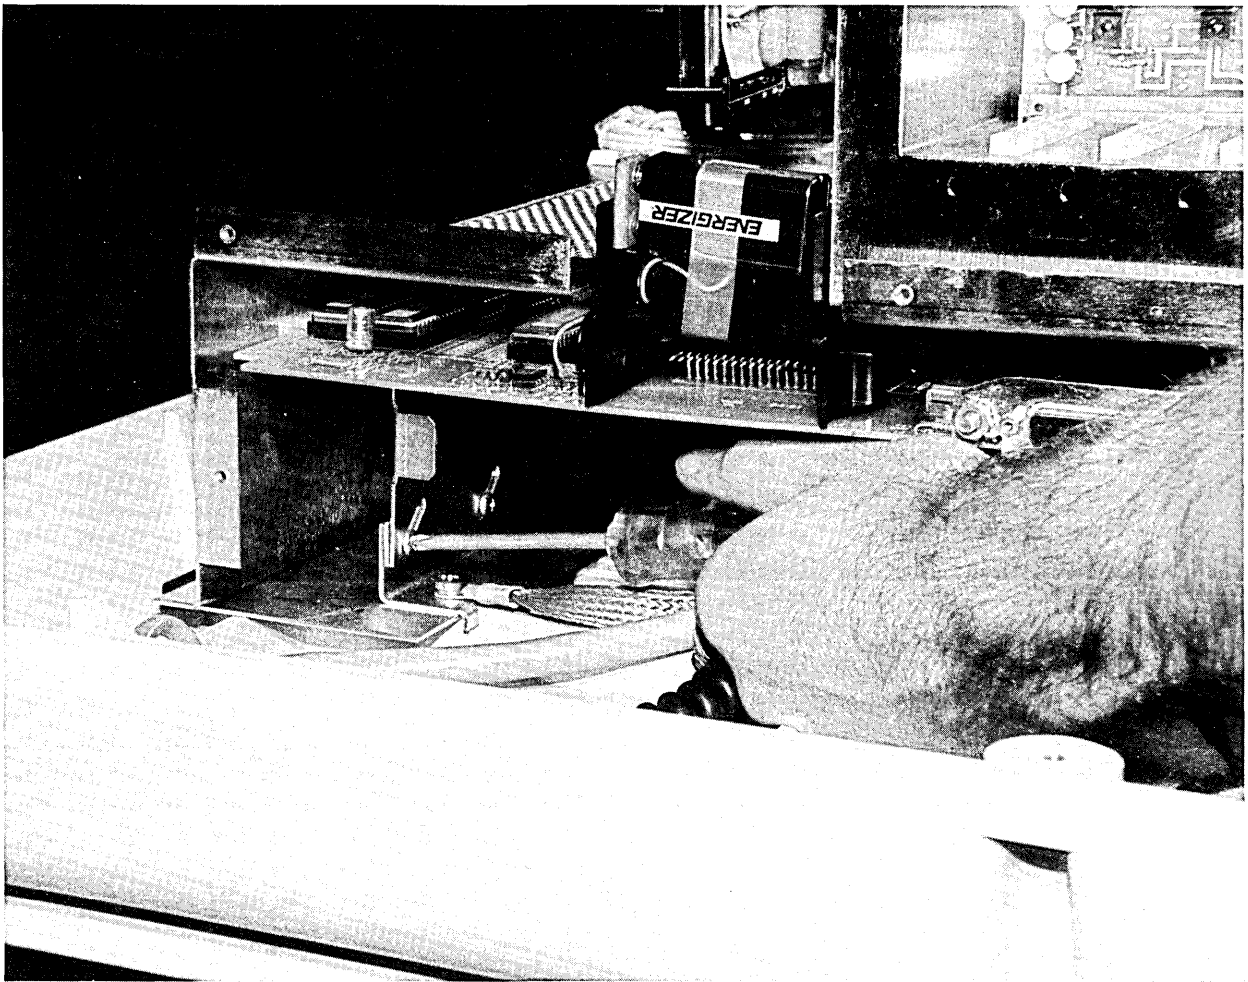

Figure 5-24. Loosening the Left Spring Support Bracket
7. See figure 5-24. Loosen two screws (shown) in the left spring support bracket. Complete removal of the comparable two screws in the right spring support bracket will allow removal of the upper bracket and its spring. This will be of help later.